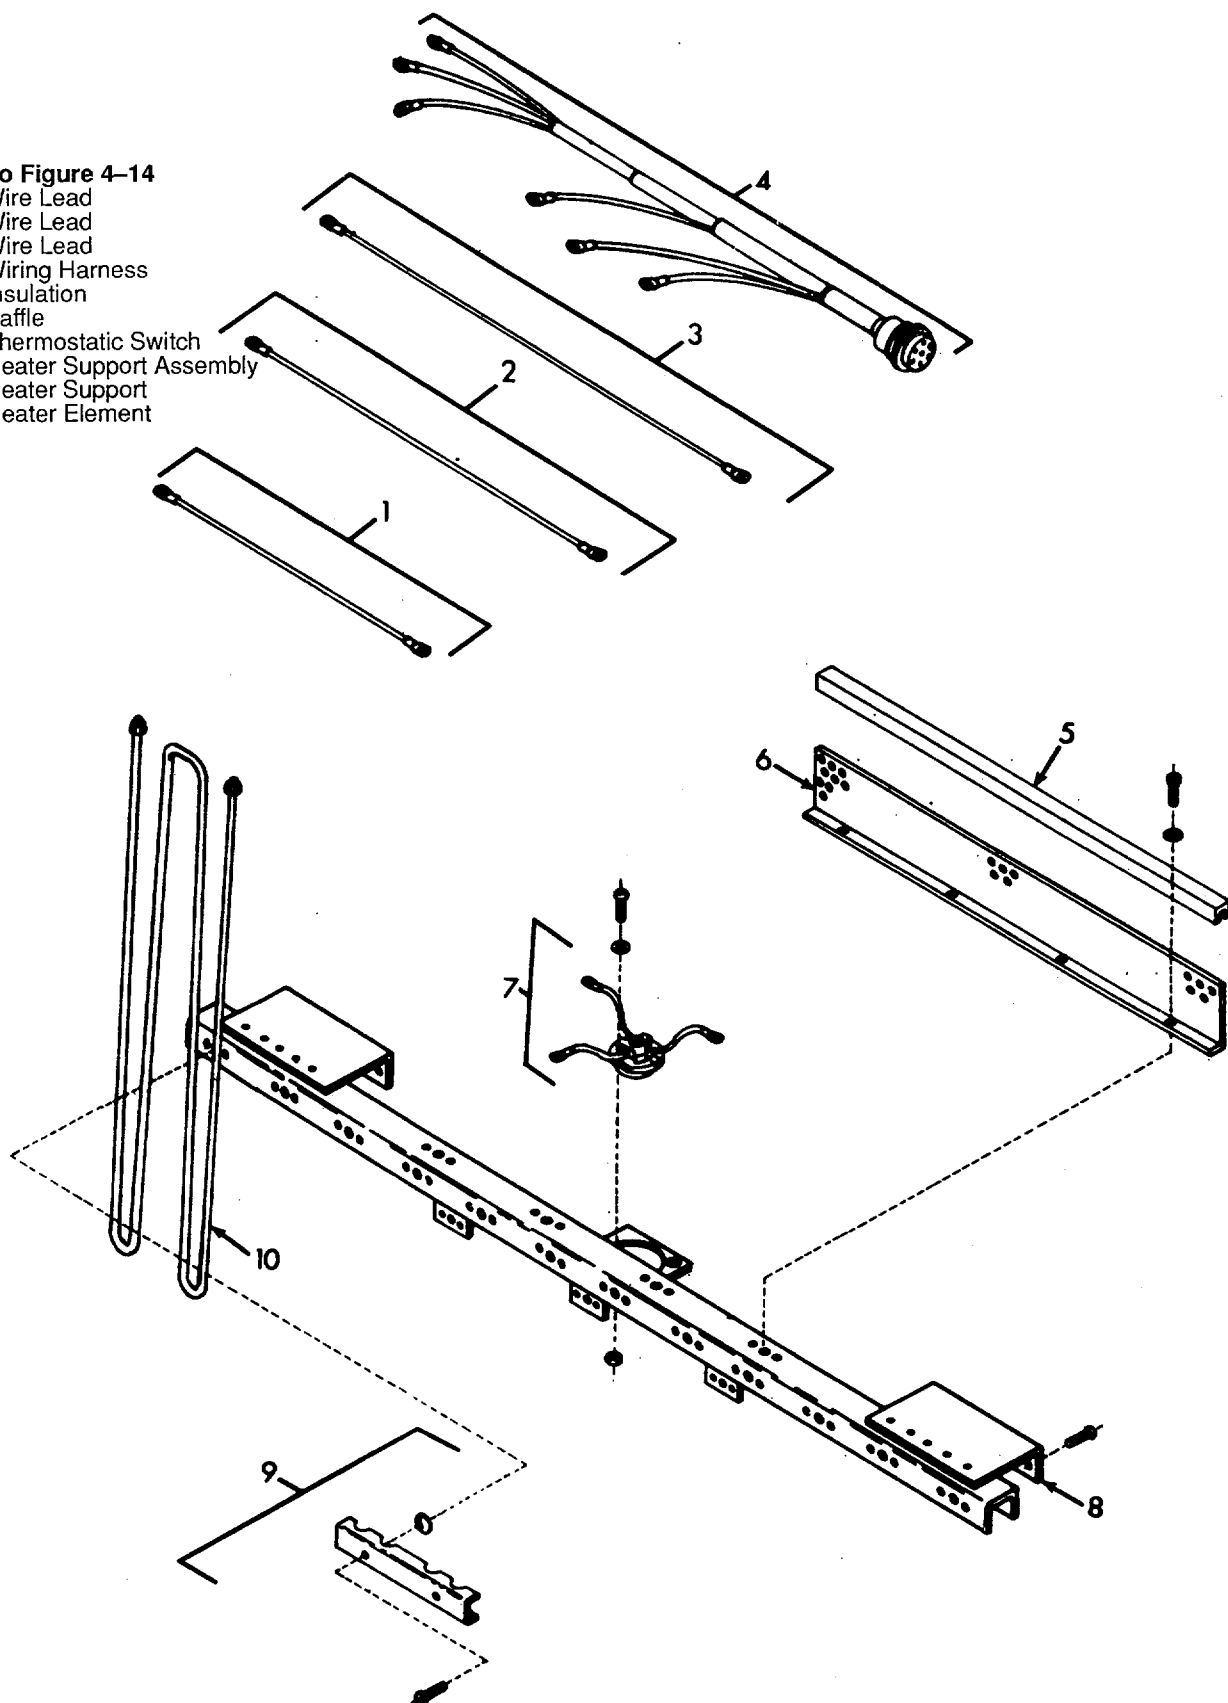

Figure 4-14. Heater Section
The heater assembly consists of six w-shaped rod-type heating elements. (See figure 4-14.) Three of the elements (10) are energized when the selector switch is set at lo heat, through a heater relay and an over-temperature thermostat (7). The remaining three elements are energized when the selector switch is set on hi heat. The lo heat elements are controlled by the temperature control thermostat on the control panel when the selector switch (also on the control panel) is set at lo heat. The hi heat elements are not thermostatically controlled. The elements are located across the width of the air conditioner just behind the evaporator coil, and are separated from the blower plenum by a perforated diffusing baffle.
The heater thermostatic switch (7, Figure 4-14) acts to protect the heating elements against burnout. This condition can occur when the temperature control thermostat on the control panel is set at maximum increase for an extended period while airflow is obstructed or the evaporator blower is not operating. Perform maintenance on the heater thermostatic switch as follows:
**b. Removal.** Remove the thermostatic switch (7, figure 4-14) from the bracket on the rear surface of the heater support assembly (8), by disconnecting three wires and removing two screws, rivets and washers from the mounting flange.
- (1) Tape a thermometer on the junction of a thermocouple to the body of the thermostat.
- (2) Connect an ohmmeter or continuity tester to any two leads of the thermostat.
- (3) Gradually apply heat to the thermostat, using a heat lamp or other convenient source, and observe the continuity tester. Continuity should exist until the temperature shown by the thermometer or thermocouple reaches 185-203°F (85-95°C), then drop out.
- (4) Remove the heat source and observe the continuity tester as the thermostat cools. Continuity should be re-established at 125-158°F (52-70°C).
- (5) Disconnect the ohmmeter or continuity tester from one of the thermostat wires, and connect it to the remaining wires. Repeat steps (3) and (4). Replace thermostat if it does not meet continuity requirements.
**d. Installation.** Position the thermostatic switch (7, figure 4-14) in hole in bracket, and secure with two screws, washers and nuts. Connect wires to terminals of heating elements (10).
- (1) Position the top panel on the unit. Secure it with 31 screws through the top and rear flange.
- (2) Position the evaporator discharge grille on the unit. Secure it with 16 screws and washers.
- (1) Remove 16 screws and washers from the frame of the evaporator discharge grille. Remove the grille.
- (2) Remove 12 screws and washers from each evaporator intake grille. Remove both grilles.
- (3) Remove 31 screws from the top and rear flange of the top panel. Remove the panel.
**KEY to Figure 4-14**